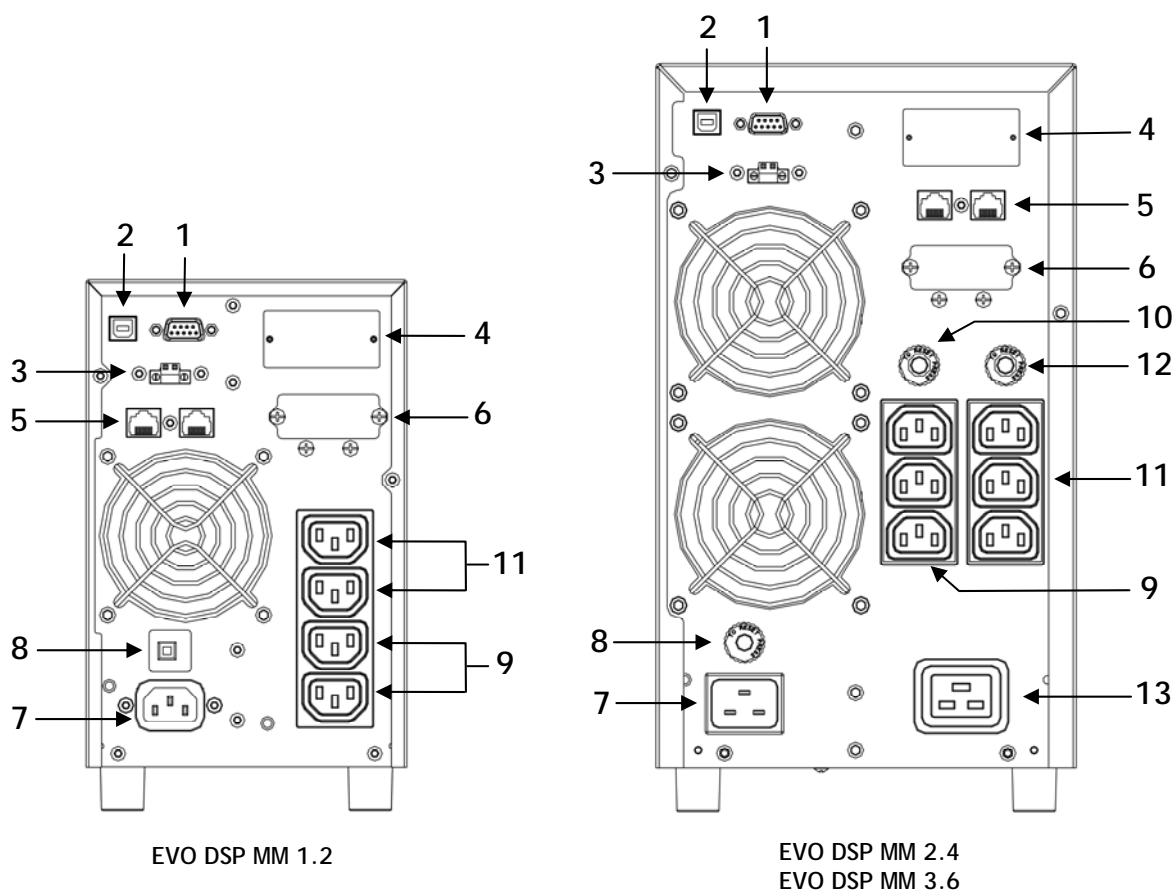

Figure 4 - Rear Side
1. Through the included power cable connect the UPS Input socket to the AC line outlet (see figure 4). It is mandatory to ground the AC line outlet according to the Safety Standards. Carefully check the grounding of AC line outlet.
- 3.1. Remove the metal cover (#6) on the rear side (see figure 4) to access to the Battery Box Connector.